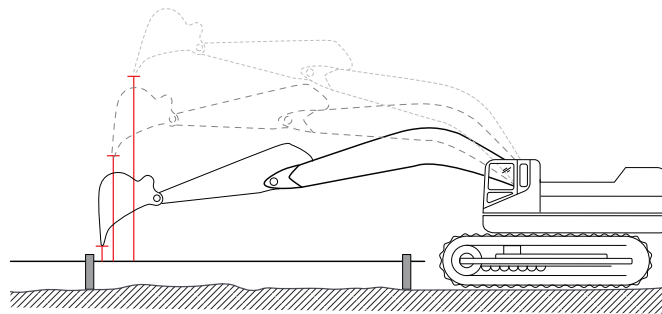

Figure 83: String Line Verification - Boom
3. Curl only the boom in and out at various positions, and measure the distance from the string line to the bucket teeth with a measuring tape (Figure 83).